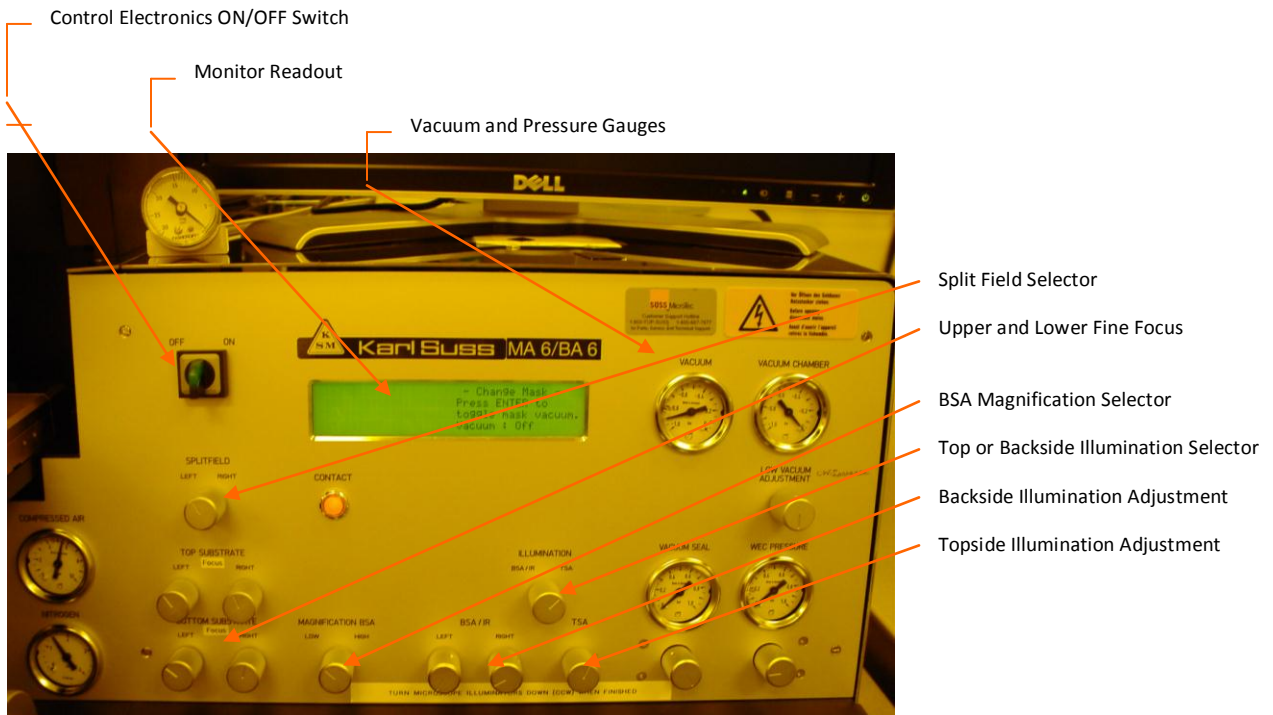

Figure 2. Main Control Console
Figure 2 shows details of the main console with its adjustment knobs. This section will give brief explanations of the knobs which will then be described in the operation procedure later in the document.
- Turn off the control power using the momentary Control Electronics ON/OFF Switch on the knob panel (Figure 2). This is mandatory for protection of the control electronics from the lamp start EM interference.